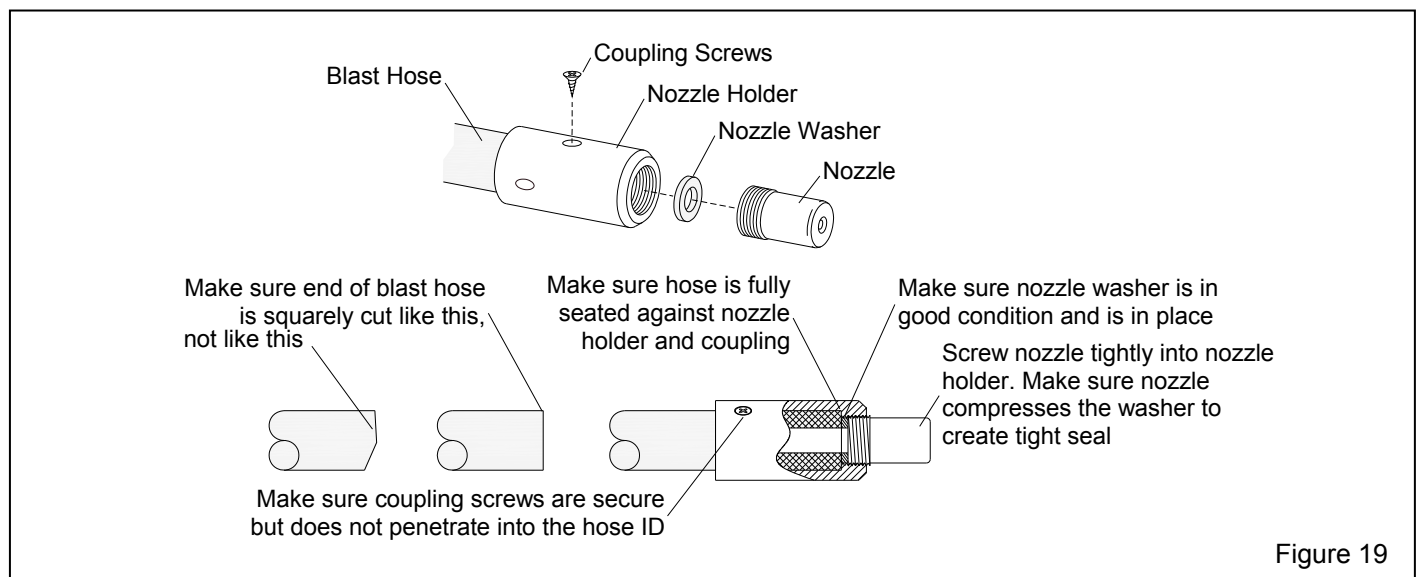

Figure 19
7.3 Blast Hose and Nozzle, Refer to Figure 19